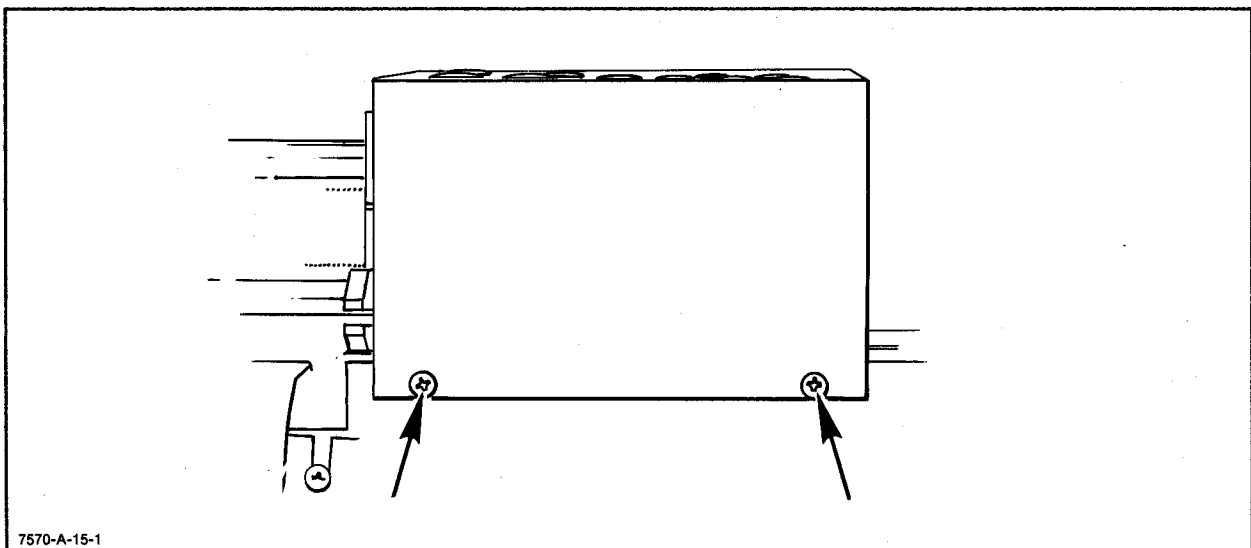

Figure 6-8. Front Panel Mounting
- c. Remove two the machine screws from the front edge of the front panel assembly. See Figure 6-8.